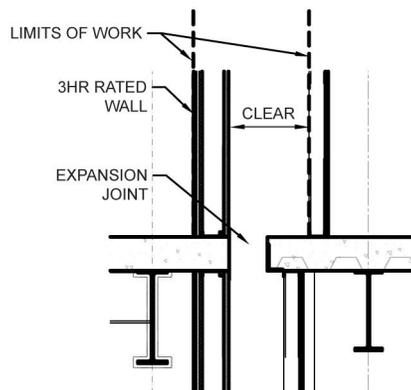

Figure 3.9A 3-hour Fire Rated Partition
- At locations indicated on the Central Terminal B plans, SCDOA has installed a 3-hour fire rated partition as indicated in *Figure 3.9A*. Reference *Section 3.1 Building Conditions* for the 3-hour wall location. The partition shall not for any reason be penetrated. The Tenant is required to construct a self-supporting wall to conceal outlets, hang finishes, niches, etc.